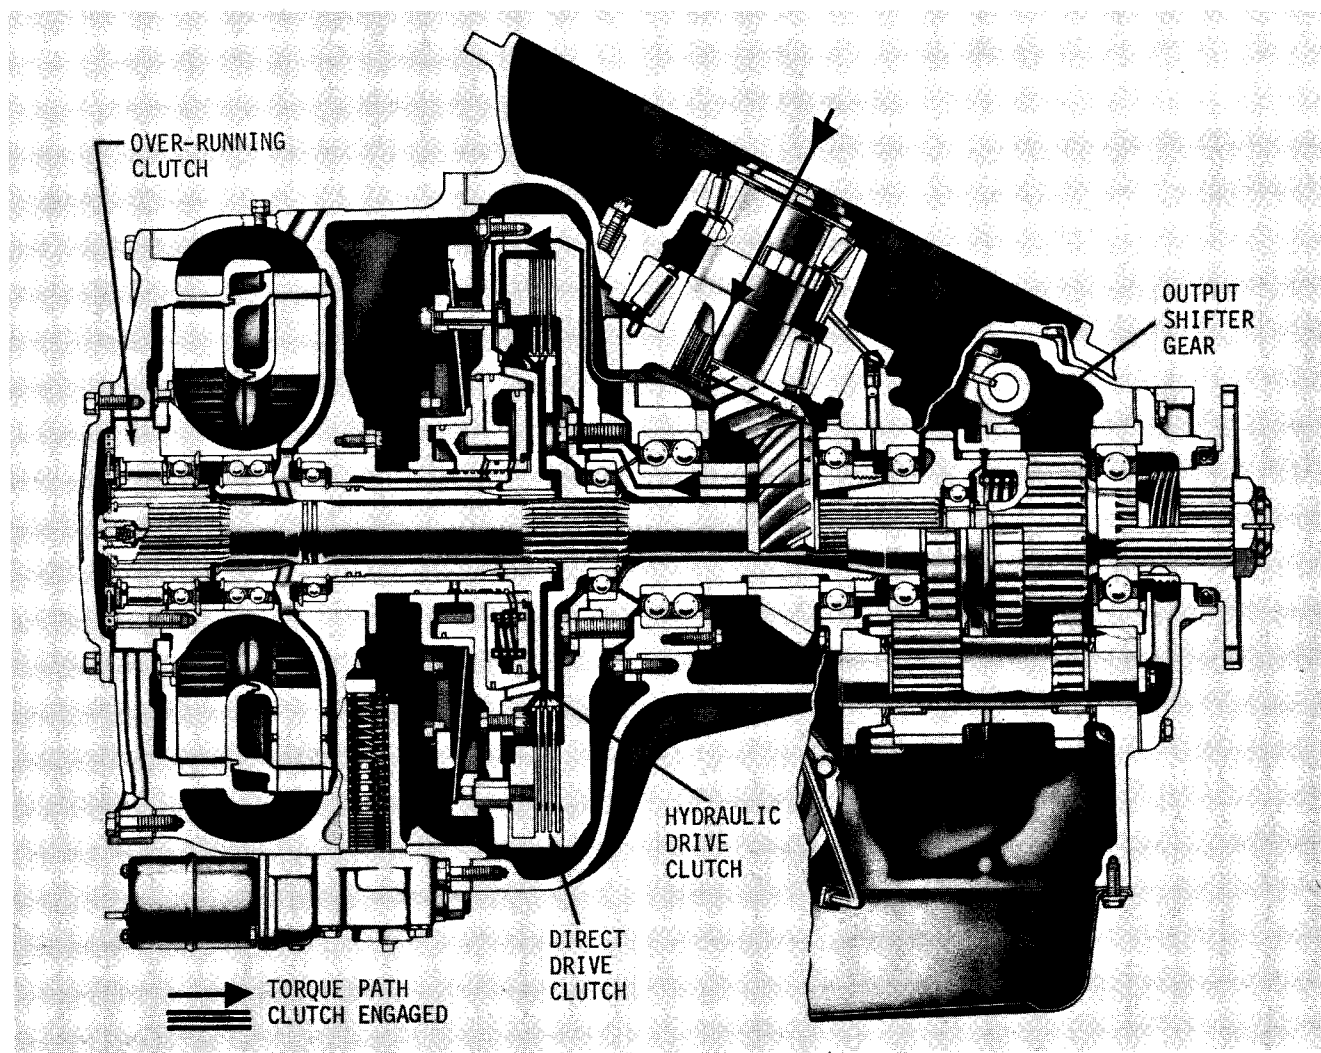

Fig. 2-1. VH Series, neutral—torque path
Note: The torque paths for the VH and VS series transmissions are illustrated in figures 2-1 through 2-13. In all the illustrations, the output shifter gear is shown in the forward drive position (moved to the left). In actual operating conditions, this gear is moved to accomplish the various drive ranges, as explained below.
a. VH Series, Neutral — Torque Path (fig. 2-1)
(1) In neutral, as in all drive ranges, the engine drives the bevel drive gear through a splined shaft. The bevel drive gear, driven by the drive gear, is keyed to and drives a sleeve which is bolted to the drive clutch plate assembly. A cover assembly is bolted to the drive clutch plate assembly. The drive clutch plate assembly and the cover assembly enclose the drive clutches.
(2) The drive clutches are released in neutral, thus torque is not transmitted beyond the clutch.
(3) The output shifter gear is in the neutral (middle) position, and is out of mesh with the output intermediate gear.